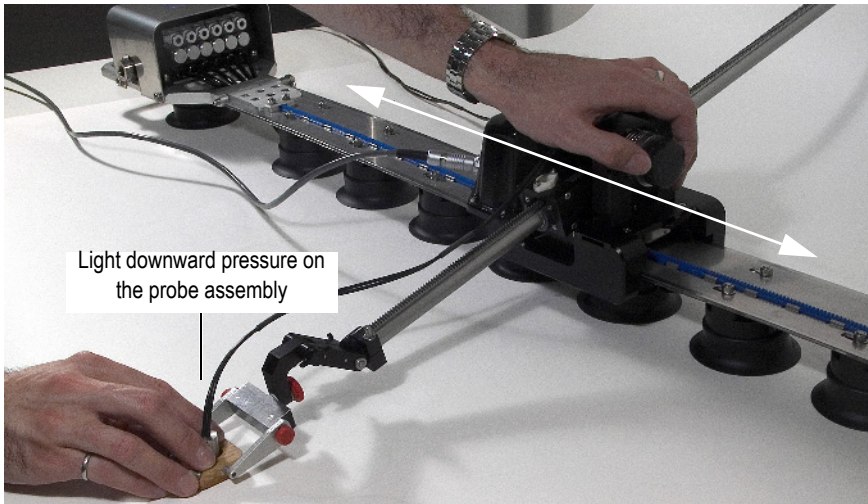

Figure 3-1 Performing an inspection with the scanner
- ◆ Operate the scanner using two hands: hold one hand on top of the encoder module and push it back and forth along the flexible axis during scanning (without applying any pressure against the inspection surface); rest the other hand on the probe and apply a slight downward pressure on the probe assembly (see Figure 3-1 on page 28).